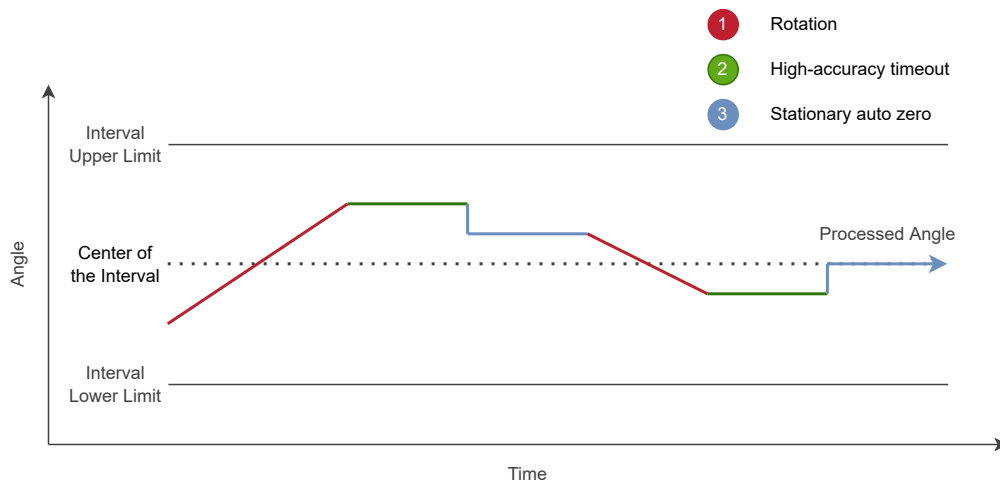

Figure 5.4: Stationary Auto-zero Behaviour
- > **Stationary:** An auto-zero event will occur when the high-accuracy timeout event occurs. A single adjustment is made to the absolute angle offset each time the device exits high-accuracy mode. The **auto-zero beta** parameter defines the size of the adjustment, with an auto-zero beta value of 0 resulting in a jump to the exact center of the interval. This behaviour can be viewed in Figure 5.4.